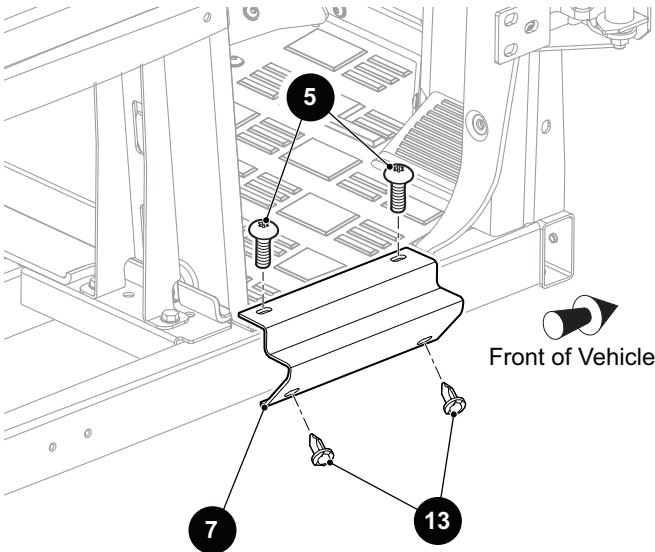

Fig. 5 Rocker Panel
1. Remove the two screws (5) that secure the rocker panel (7) to the frame (See Fig. 5).
2. Remove the two plastic rivets (13) that secure the rocker panel to the frame. Remove the rocker panel.